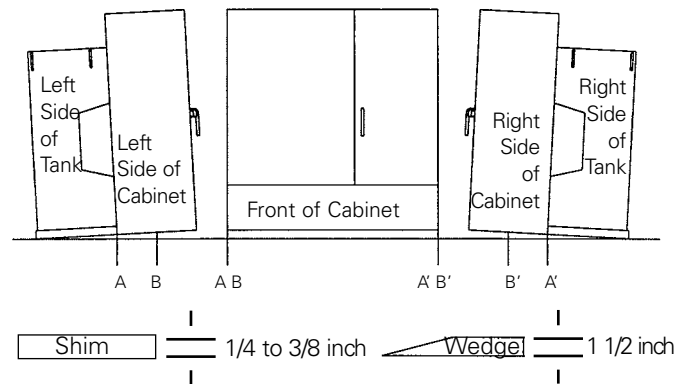

Figure 28. Cabinet removal diagram.
2. Place one 1/4 to 3/8 inch shim directly below faceplate on both sides of tank at points A and A' (see Figure 28).